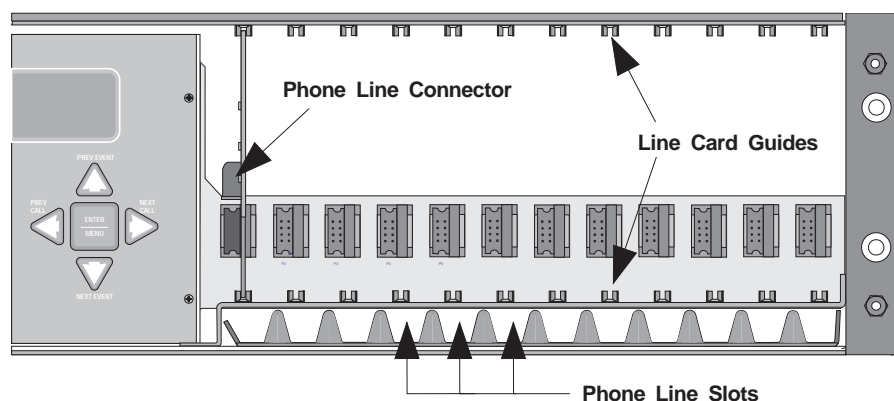
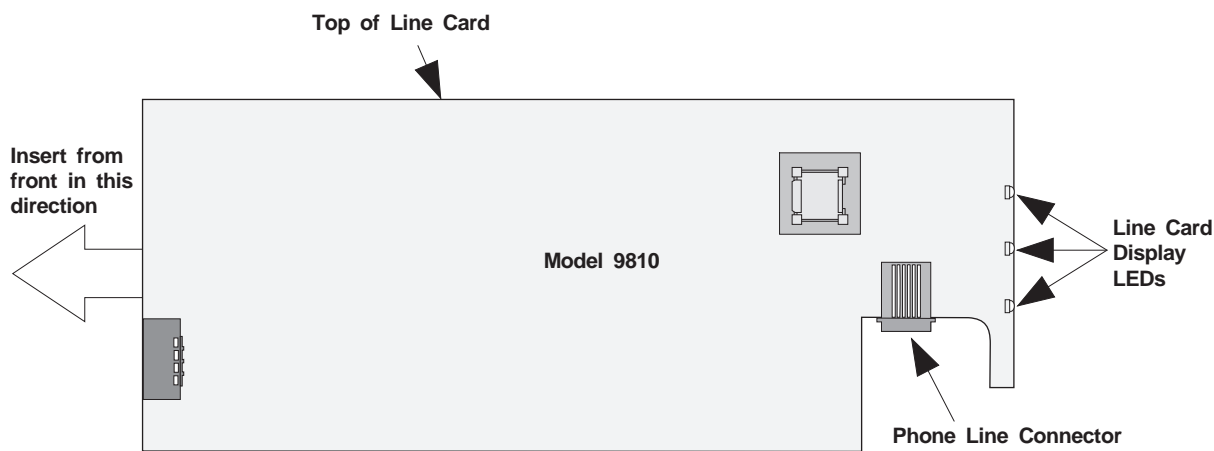

Figure 3-6 Line Card Locations
Figure 3-7 Line Card Position and Components
3. When the front panel is removed, you can see that there are 12 slots for line cards. The receiver recognizes each slot by number 1 through 12 (slot one is closest to the keypad and display). It is not necessary to put line cards in numbered order because the receiver continually polls each slot to see if existing line cards are functioning and if it is still in its slot. The receiver also looks to see if a new line card has been added. Figure 3-6 shows line card placement.
4. Position the line card as shown in Figure 3-7.
5. Unplug the telephone line (Figure 3-6, Figure 3-7).
See Figure 3-6 for the location of the phone line inputs. Connections to the CS-5000 phone jacks are made with a standard 7-foot phone cord (provided with each line card).
2. From the back side of the receiver insert the telephone line through the corresponding slot for the desired line card (Figure 3-6, Figure 3-7).
4. Plug the RJ-11 phone connector into the connector on the line card (Figure 3-6, Figure 3-7).